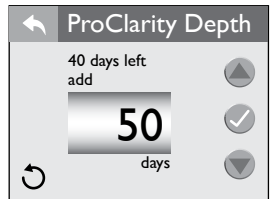

Figure 12.6i
1. From the “Water Care” Menu you can to set the “ProClarity Depth” timer, Figure 12.6i.